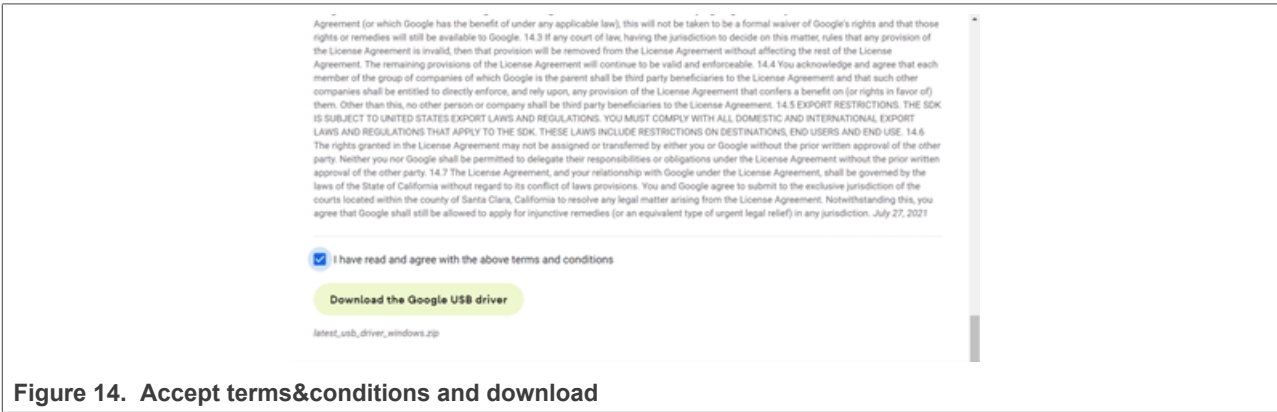

Figure 14. Accept terms&conditions and download
2. Accept the terms and conditions and click the download button (see Figure 14).